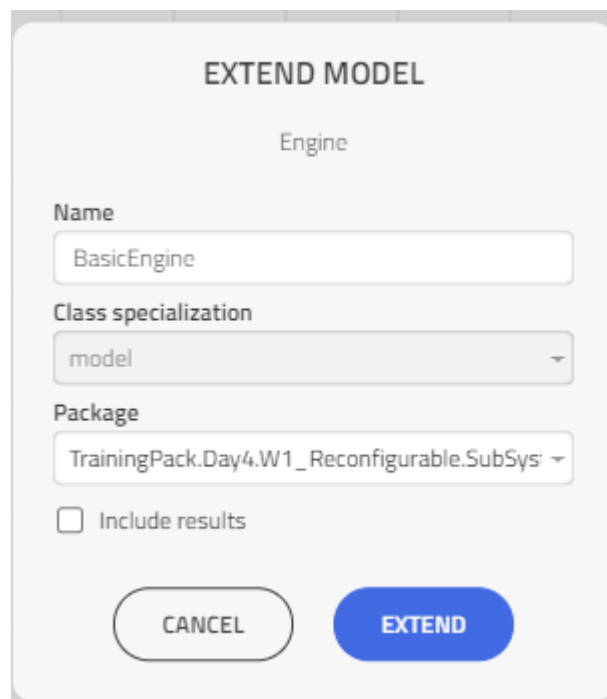

Figure 4 Creating new basic engine
6. Create a *BasicEngine* model in the *SubSystems* package, see Figure 4.